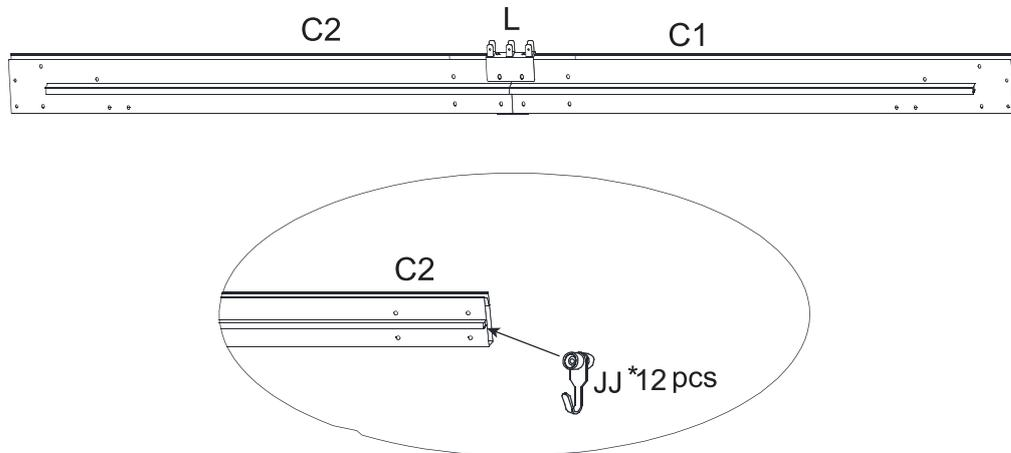

Figure 2.1
2.1. Slide the Hang Wheels (JJ) into the Short Right Lintel (C2). See Figure 2.1.